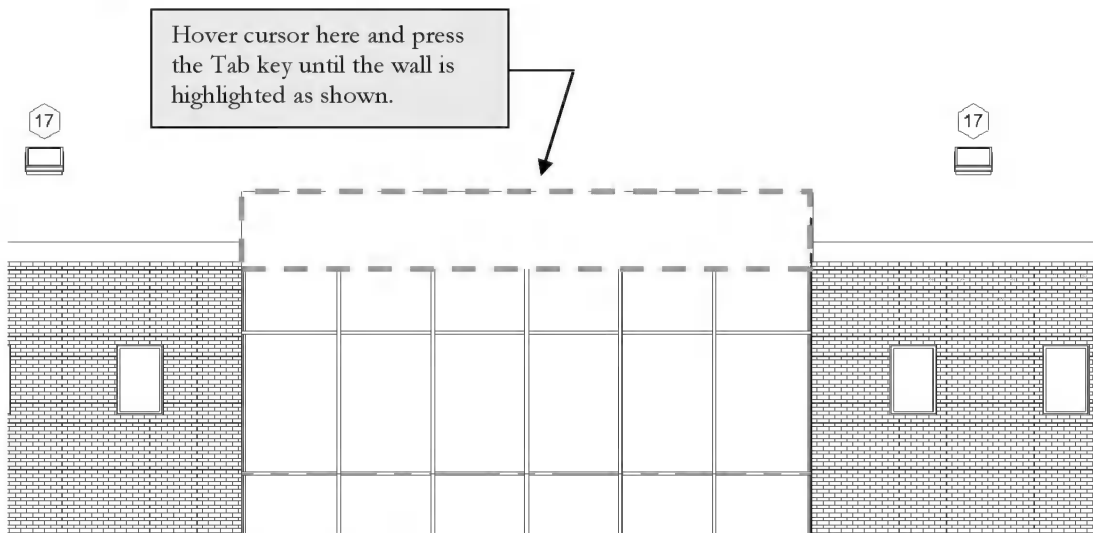

FIGURE 8-6.16 South Elevation; select wall to establish work plane
42. Move the cursor over the upper edge of the wall above the curtainwall and press the Tab key until a dashed line appears around the perimeter of the wall, and then click the mouse to select (Figure 8-6.16).